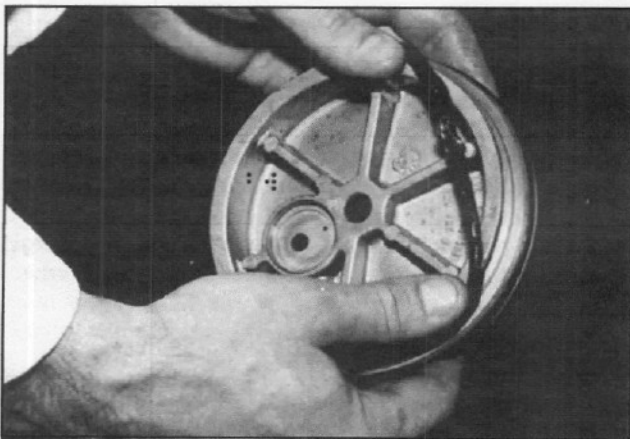

FIGURE 6 - DESICCANT SEALING PLATE
5. Thoroughly lubricate the two new o-rings and install them in their respective grooves in the purge plate (Figure 6).